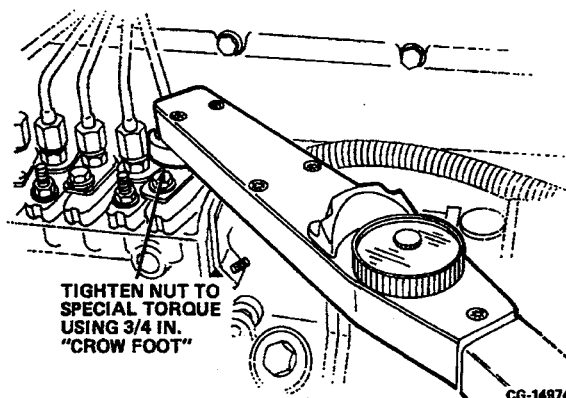

Figure 11.86. Install Injection Line Connector Nuts to the Pump Delivery Valve Holders
- c. Tighten the fuel injection line connecting nuts to the delivery valve holders at the pump. Tighten to the specified "SPECIAL TORQUE" using a 3/4 in. "Crow Foot" wrench at the connector nut. Refer to Figure 11.86.